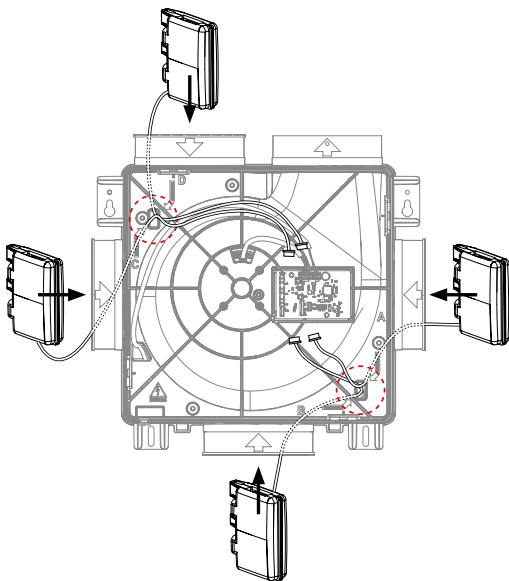

Figure 15: Four options for cabling up to one CO2 Box sensor to circuit board
7. Mount the lid correctly on the unit. Make sure the notch in the lid is over the power cable opening (Figure 15: Note the notch in the lid). Screw the lid back on and close with the cover plate.